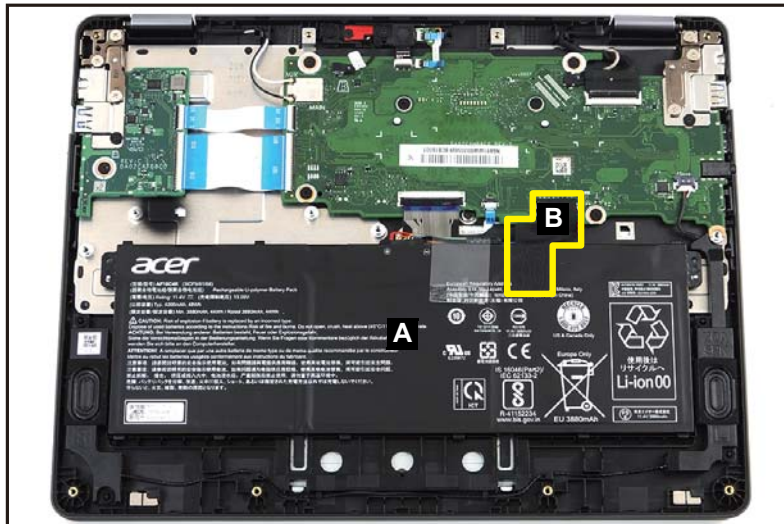

Figure 1-6. Battery Pack Removal
1. Find the battery pack (A) on the top assembly (Figure 1-6).
2. Detach the tape (B) securing the battery cable to the mainboard connector (Figure 1-6).